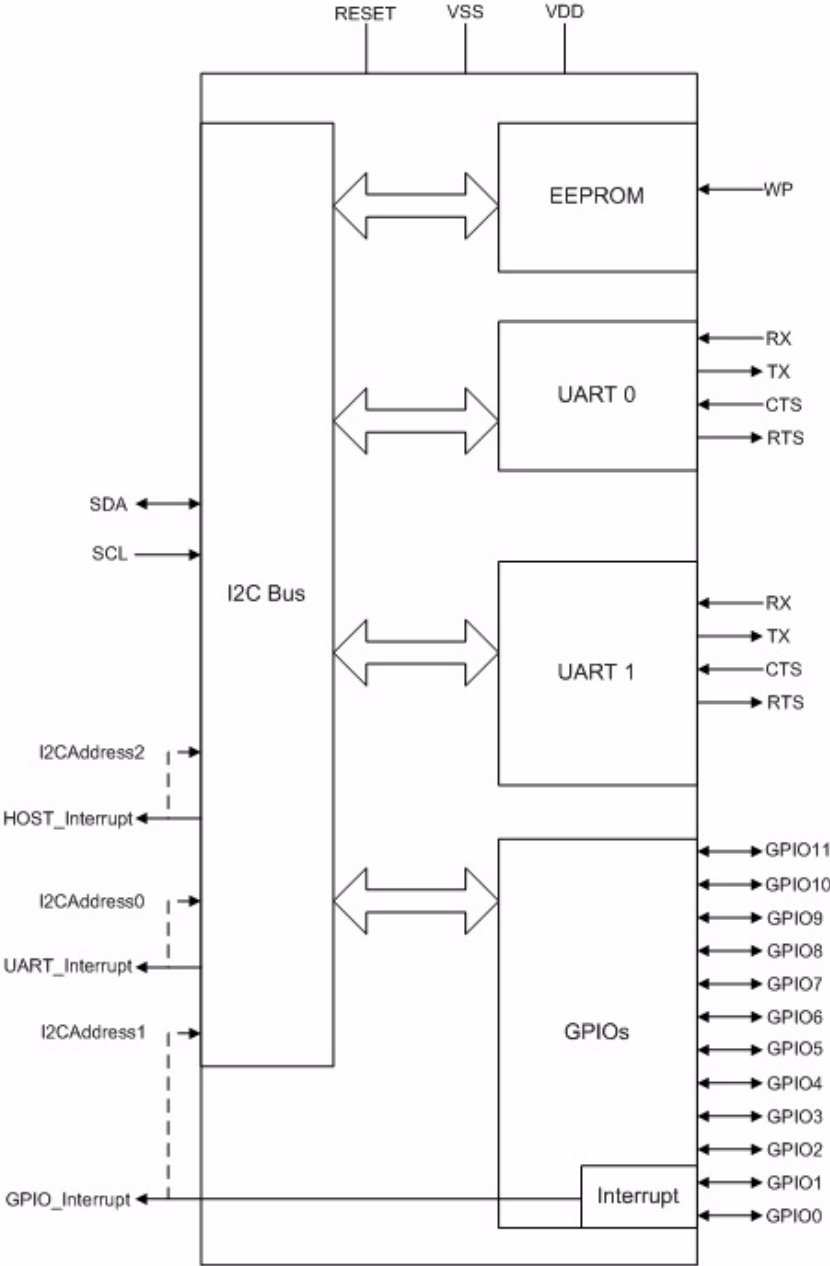

Figure 1. Digital UART Block Diagram
- Figure 1. Digital UART Block Diagram 5
Figure 1 shows a block diagram of the Digital UART.